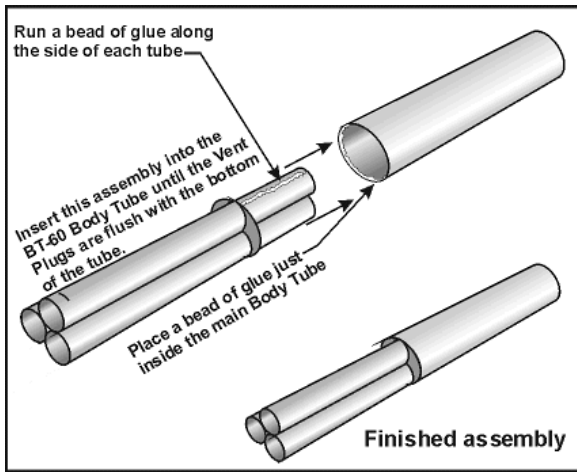

Figure 6
7. Apply a bead of glue along each Engine Tube, between the Vent Plugs and the end of the assembly, as shown in **Figure 6**. Also apply a bead of glue just inside one end of the **BT-60 Main Body Tube**. Slide the Engine Tube Assembly into the Main Body Tube until the Vent Plugs are flush with the bottom of the BT-60.